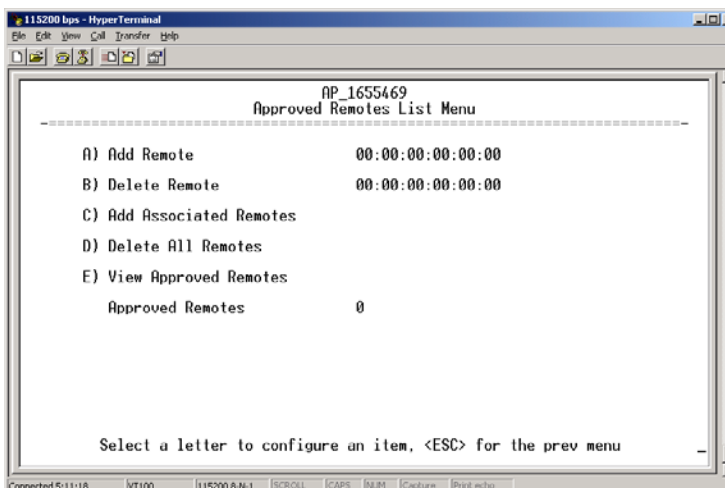

Figure 3-66. Approved Remotes Submenu
- **Approved Remotes** (AP only)—Launches a submenu where you can view, add, or delete approved Remotes. (See Figure 3-66.)